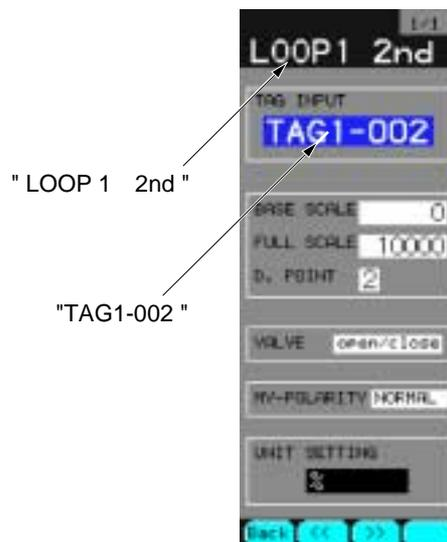

Fig. 4-37
- ① Press the "Chameleon change" key  to display "<<" and ">>".
- ② Press ">>" once. "LOOP1 2nd" screen will appear (Fig. 4-37).
- ③ The setting method below is the same as "Primary display setting".